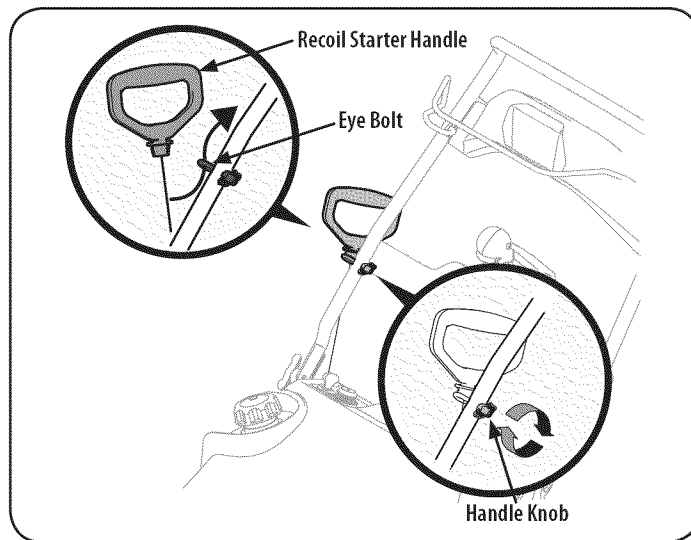

Figure 10
2. Place the eye bolt and handle knob on the upper handle as shown in Figure 10. Do not fully tighten the hardware until instructed to do so.
4. Slip the recoil starter rope into the eye bolt from the back of the snow thrower. See Figure 10.